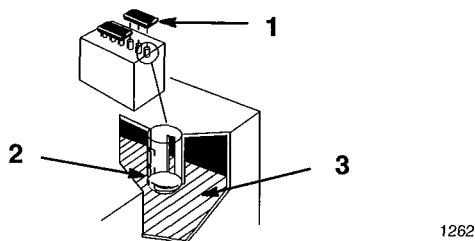

Figure 36
2. Open covers to see into the cells. The electrolyte must be up to the lower part of the tube (Fig. 36). Do not allow the electrolyte to get below the plates. (Fig. 36).
2. Lift off the filler caps (Fig. 36).
3. Slowly pour distilled water into each battery cell until the level is up to the lower part of the tube (Fig. 36).